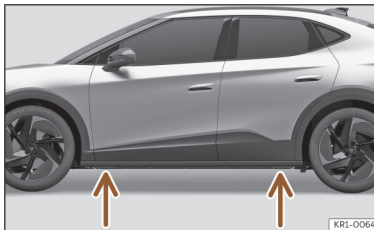

Fig. 207 Jack position points.
- Look on the crossbar for the mark of the jack support point (sunken area) closest to the wheel to be changed >>> **Fig. 207**.